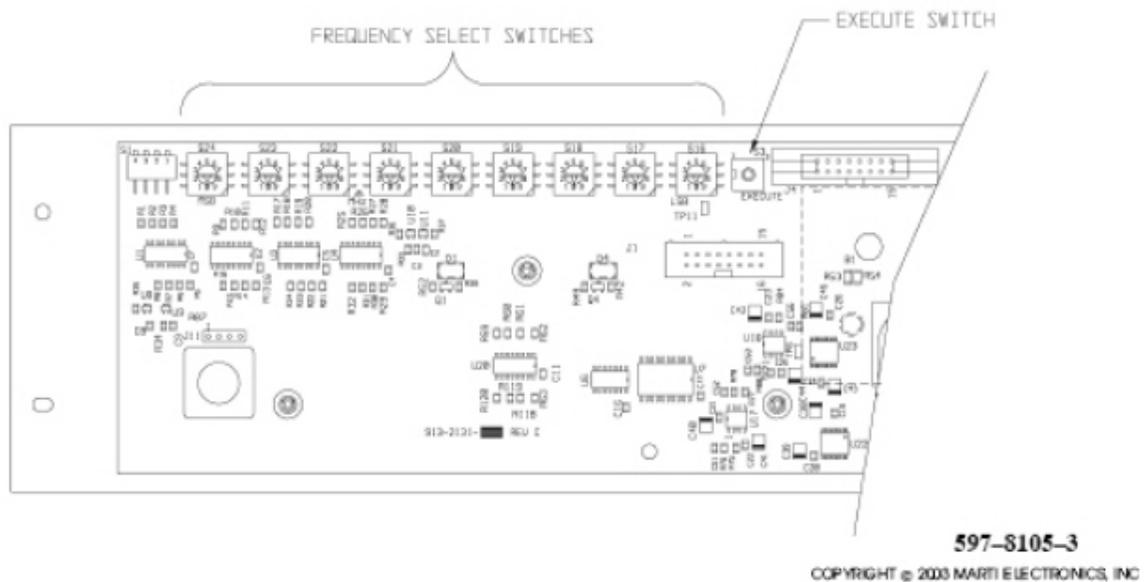

Figure 4-1: Frequency Select Switches and Execute Switch
- A. Determine the operating frequency. Use the frequency select switches to enter the frequency (refer to Figure 4-1).